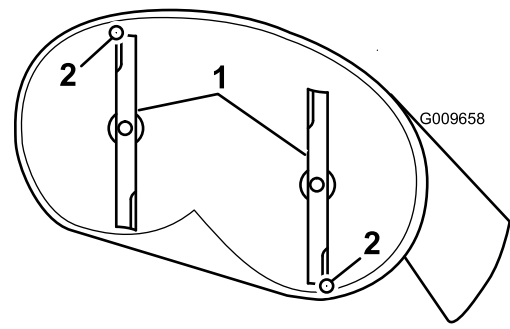
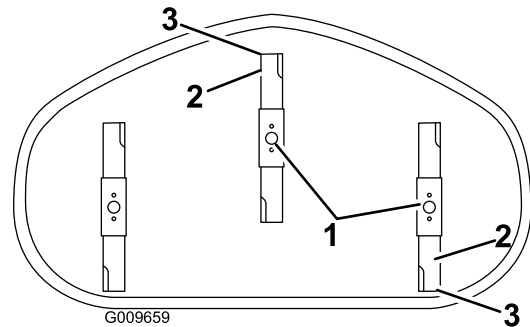

Figure 56
Figure 57
5. Measure from the tip of the front blade to the flat surface, and the tip of the rear blade to the flat surface (Figure 56 and Figure 57).
4. Carefully rotate the blades so they are facing front to rear (Figure 56 and Figure 57).
9. After adjustment, check the front-to-rear slope again, continue adjusting the nut until the front blade tip is 1.6 to 7.9 mm (1/16 to 5/16 inch) lower than the rear blade tip (Figure 56 and Figure 57).